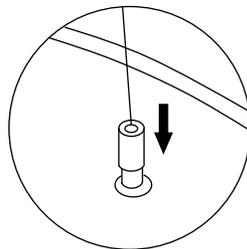

Fig 10
8. Attach the string to holder (Fig 10).